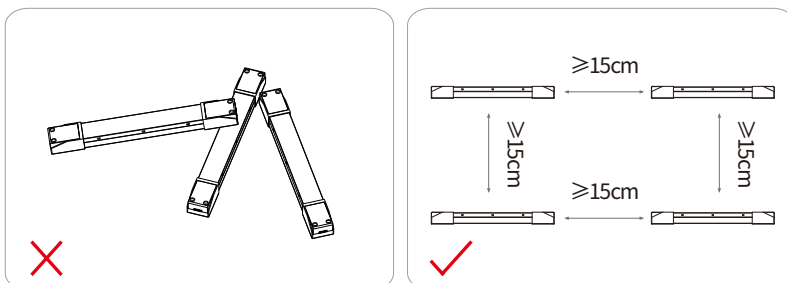

Figure 1
1. The driver should be a certain distance between the drivers, as shown in Figure 1.